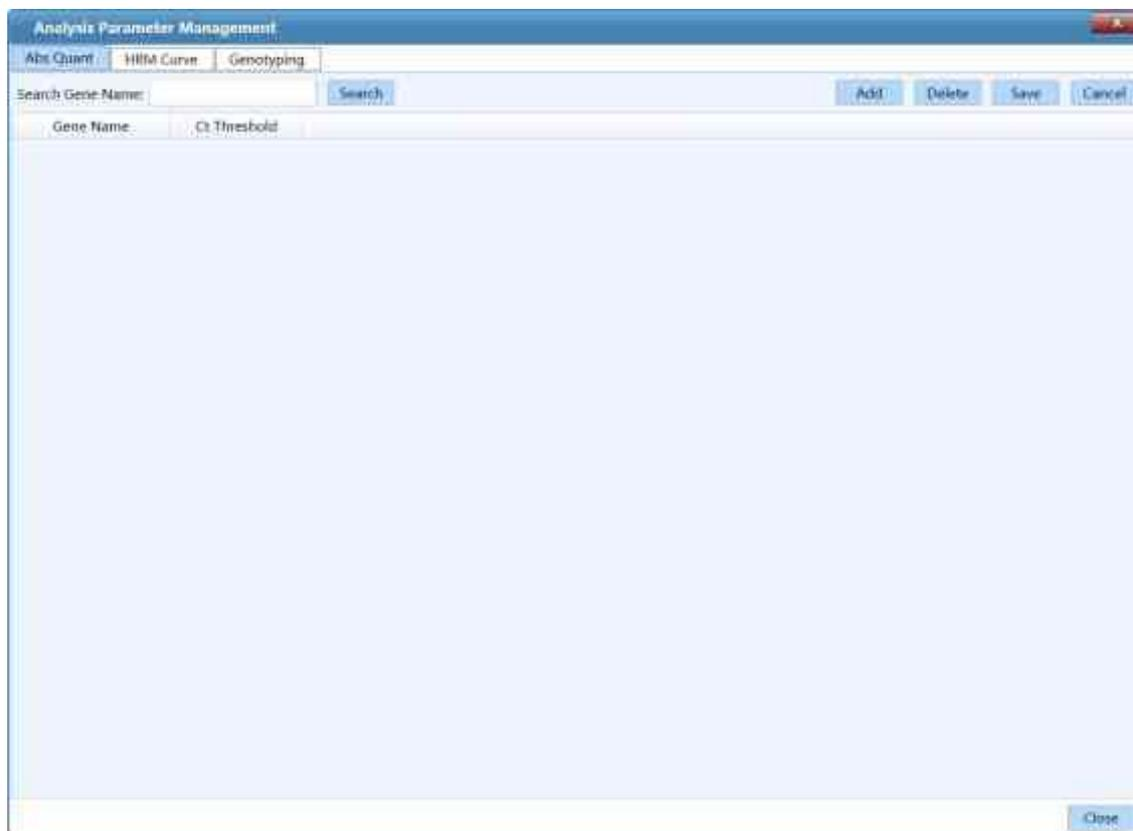

Figure D-2.8a Parameter Management interface - Abs Quant tab
- ▶ **Abs Quant** tab: the analysis parameter management interface displays the **Abs Quant** tab by default, as shown in figure D-2.8a. User can manage the analysis parameters of specific or multiple genes for absolute quantitative experimental results analysis.